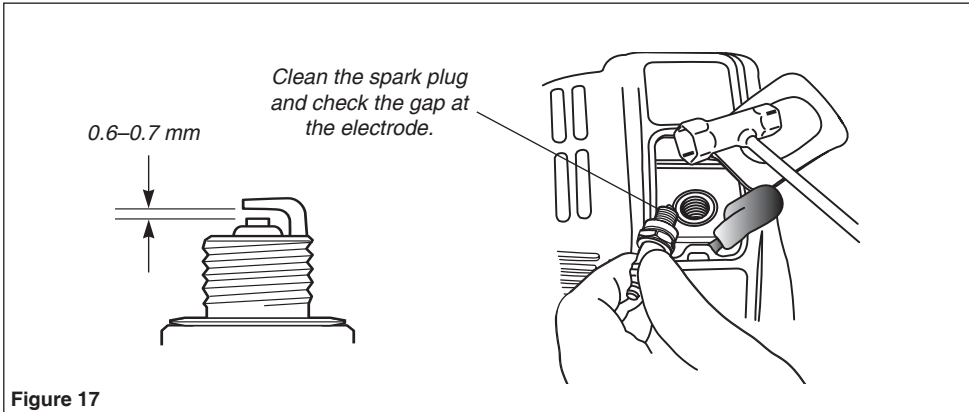

Figure 17
- Remove and clean the spark plug. Adjust the spark plug electrode gap to 0.6 - 0.7 mm. If the spark plug must be replaced, use only an NGK CMR5H or equivalent resistor type spark plug of the correct heat range. See Figure 17.